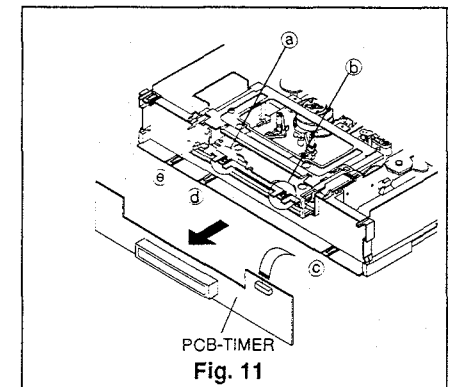

Fig. 11
- ③ Remove five catches (a~e), shown in Fig. 11, then remove the PCB-TIMER.